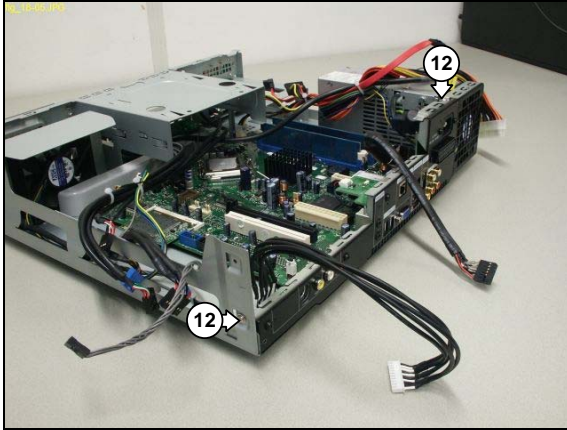

Figure 12.16-5
18. Move the cables aside to allow clear access to the motherboard subassembly. See Figure 12.16-5.
19. Remove the 2 mounting screws (12) from the motherboard subassembly. See Figure 12.16-5.